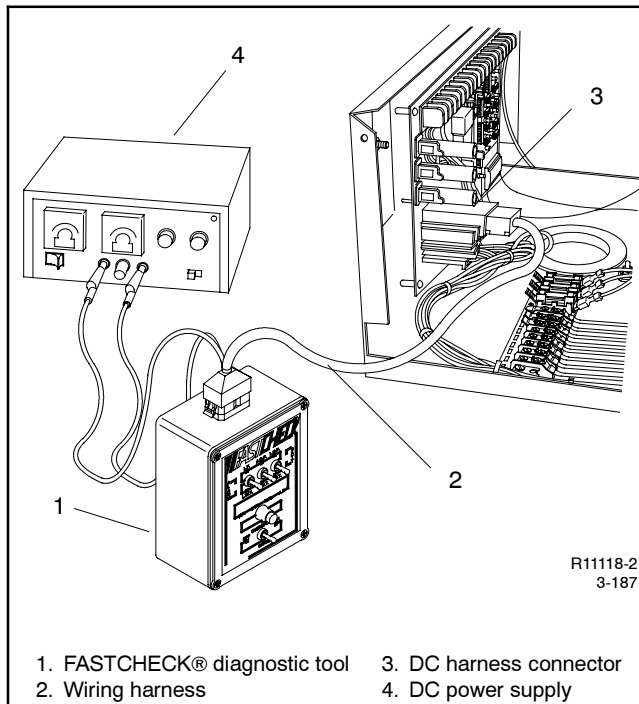

Figure 3-25 FASTCHECK® Connections
1. Unplug the DC engine harness from the DC harness connector (P1). See Figure 3-25.